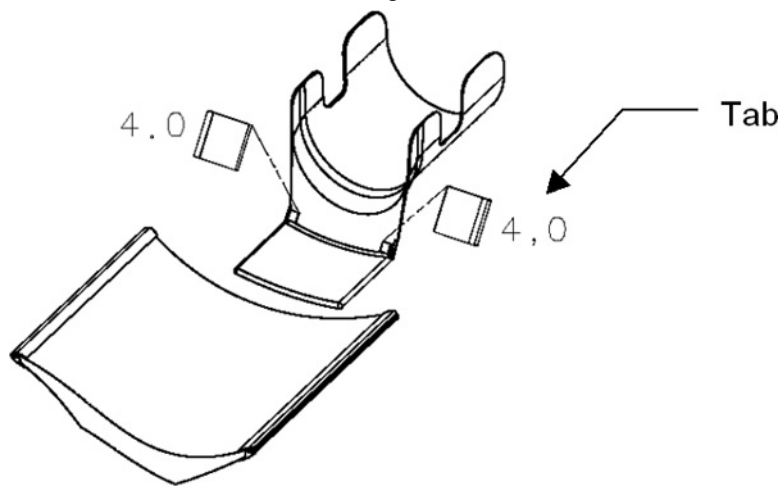

Figure 3-4 Attaching the shims
- 1.) Place the two 4.0 shims (thickest size—the thickness is printed on the shim) onto both edges of the head holder as shown in Figure 3-4. (Use a piece of tape to secure them temporarily.)